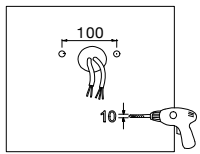

Figure 9
**2. Yoke Mounting (YM)**
**STEP 1:** Drill holes on the wall as shown. (FIGURE 9)